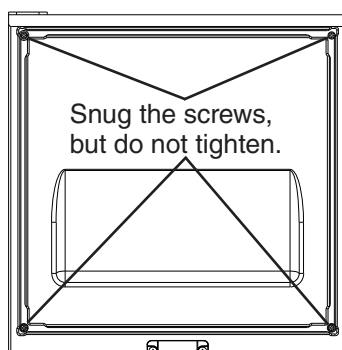

Fig. 17
- 5) Fasten the overlay panel to the door using the four M4×25 pan head screws provided. **Snug the screws, but do not tighten.** See Fig. 17.